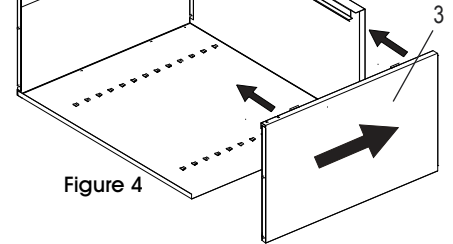

Figure 4
- Push the right side panel up so the studs in the top go through the holes in the top flange of side and fasten with three nuts. (See Figure 4)